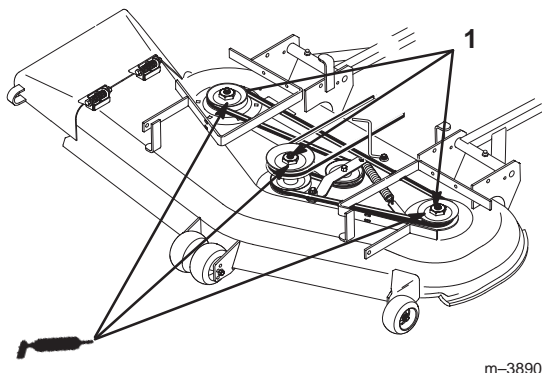

Figure 9
1. Grease the fittings on the three spindle bearings. Grease until it comes out lower seals (Fig. 9).